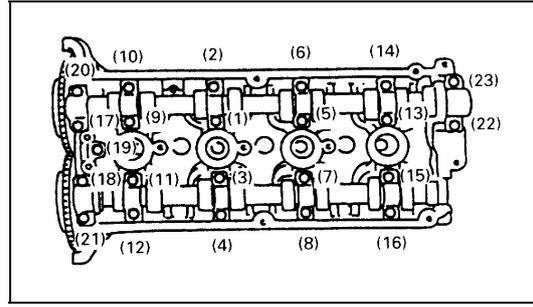

fig. 4-156
(1) cleaning camshaft bearing hole and axle journal .
(2) take out tappet and valve clearance adjusting gasket together.
(3) install camshaft to cylinder cover.
(4) place a plastic gauge flake which has same width as camshaft axle neck on the camshaft axle journal along the direction of the camshaft .
(5) Install camshaft bearing cover.
(6) According to the sequence in fig.4-156, tighten screw of camshaft bearing cover little each time, untill reach to the specified torque value.